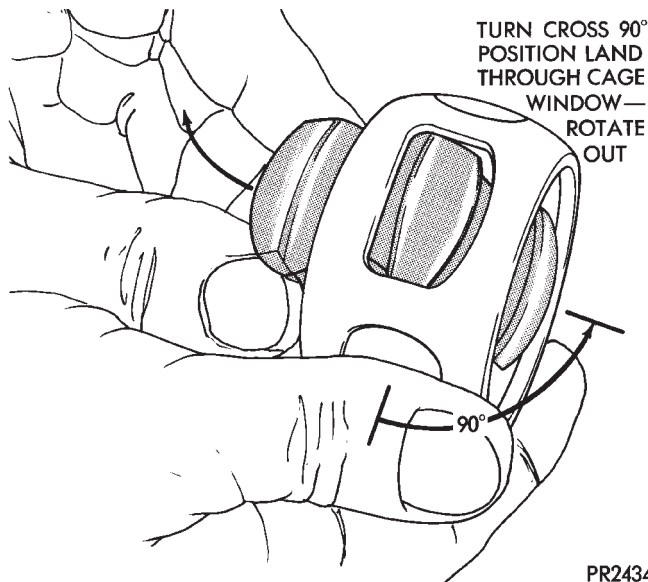

Fig. 8 Removing Cross from Cage
(12) Turn inner cross (driver) 90° to cage and align one of the race spherical lands with cage window. Raise land into cage window and remove inner race by swinging out (Fig. 8).